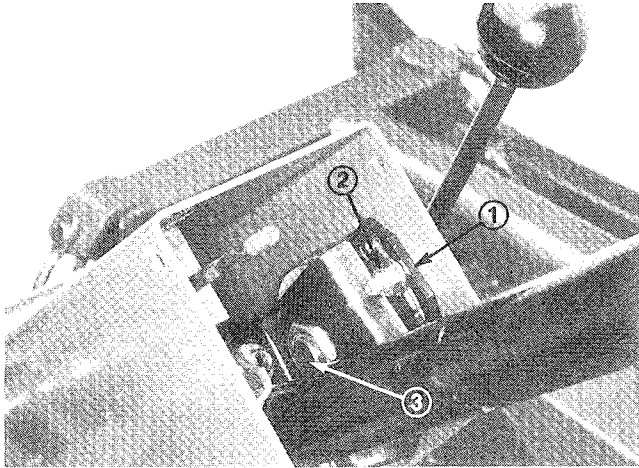

Figure 54
1. Remove knob from parking brake and self tapping screws from steering column cover. Slide cover up steering shaft to expose pivot bracket (Fig. 54).
2. Loosen small nut, rotate pivot bracket until it tightens large nut below (Fig. 54). Retighten small nut.